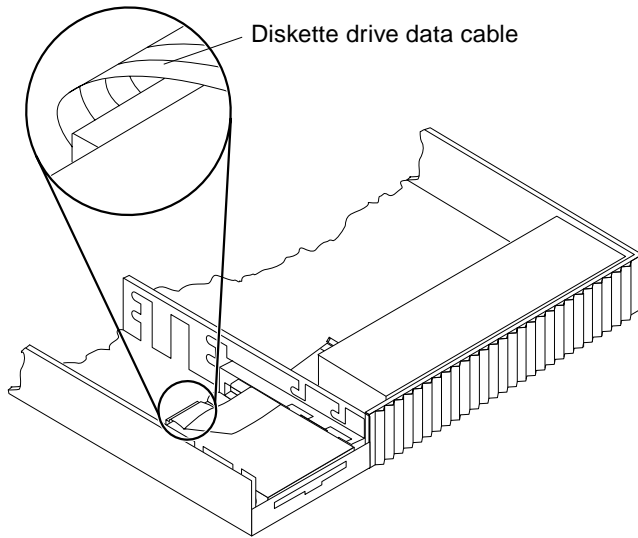

FIGURE 9-21 Connecting the Diskette Drive Data Cable
b. Connect the data cable by routing it over the diskette drive (FIGURE 9-21).